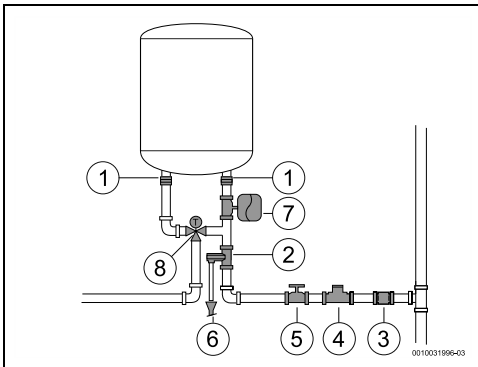

Fig. 13
- ▶ Close the water shut-off valve (→ Fig. 13, [5]).
- install a reduce valve (Fig. 13, [4]). The pressure relief valve is always triggered once the water pressure in the tank exceeds 8 bar (± 1 bar), and the discharge water then needs to be channelled off.
- install an expansion vessel (Fig. 13, [7]) to avoid opening the pressure relief valve so frequently. The volume of the expansion vessel must be equivalent to 5% of the appliance volume.